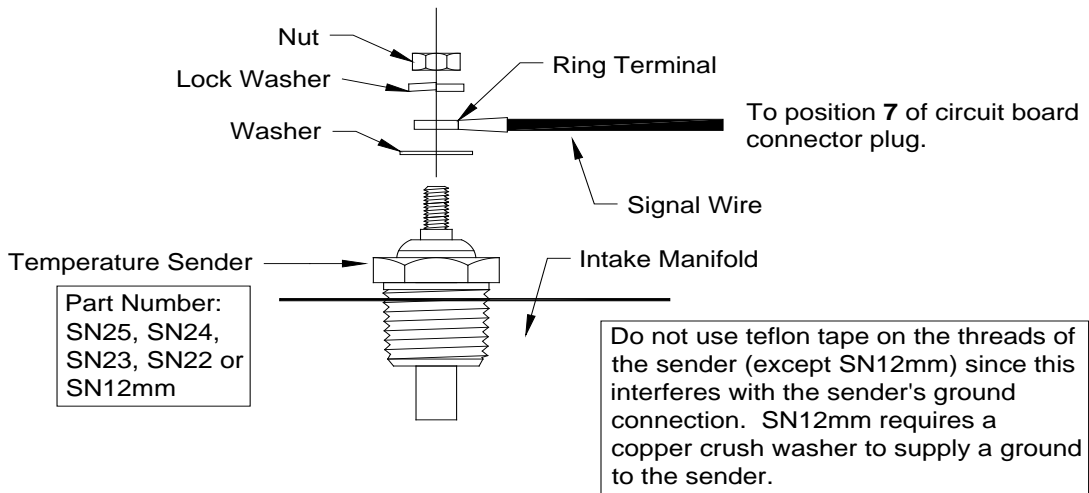

Figure 2: Temperature Sender Wiring
- 6) Connect the water temperature signal wire to position **5** of the circuit board connector plug. (*see figure 2*)